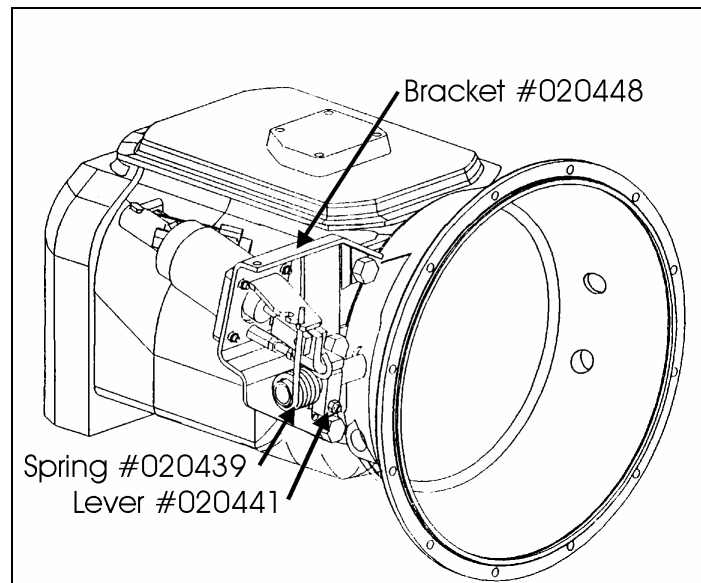

FIGURE 1: 6 SPEED TRANSMISSION
1. Locate spring system on transmission near the clutch (see figure 1 or 2).
4. Install new spring as per figure 1 or 2.